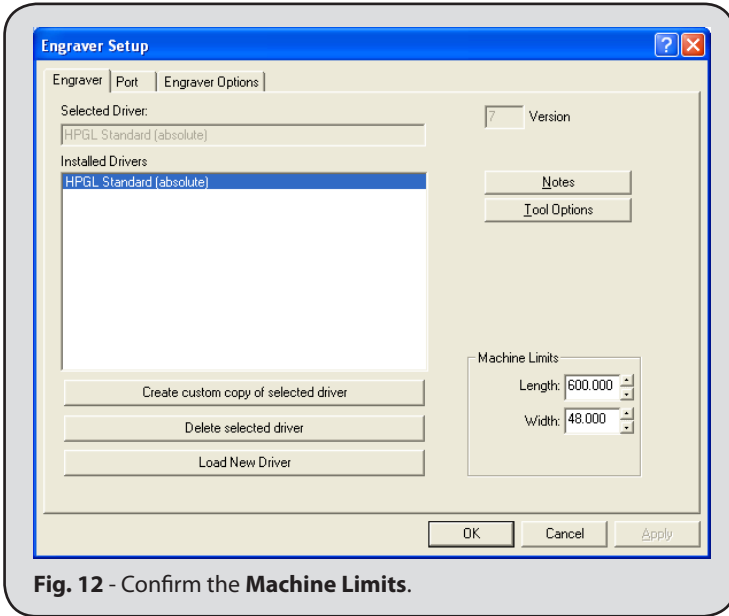

Fig. 12 - Confirm the Machine Limits.
13. On the **Engraver** tab, confirm that the **Machine Limits** have not been exceeded (Fig. 12).